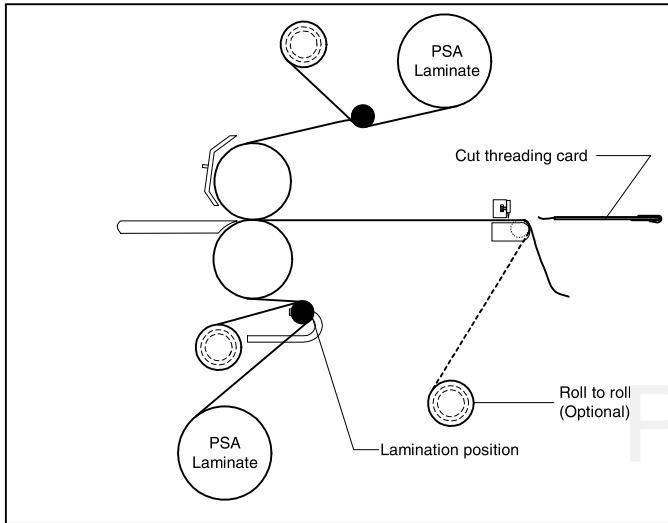

Fig. 24
17. Cut the threading card from the web. For roll to roll option, allow enough material to extend over the exit idler and down to the lower rear rewind (Figure 24).